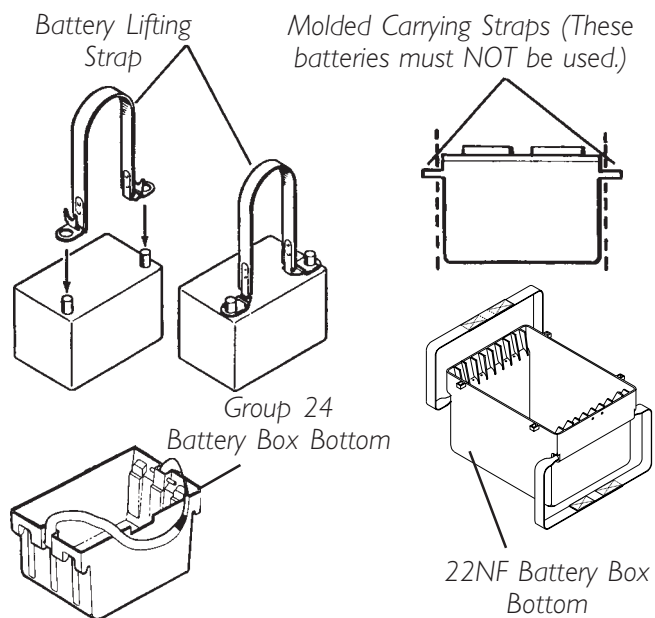

FIGURE 3 - INSTALLING/REMOVING BATTERIES INTO/FROM BATTERY BOXES
2. Disconnect battery cables. Refer to DISCONNECTING/CONNECTING BATTERY CABLES for one (1) of the following:
3. Secure battery lifting strap to battery terminal(s)/post(s) (FIGURE 3).